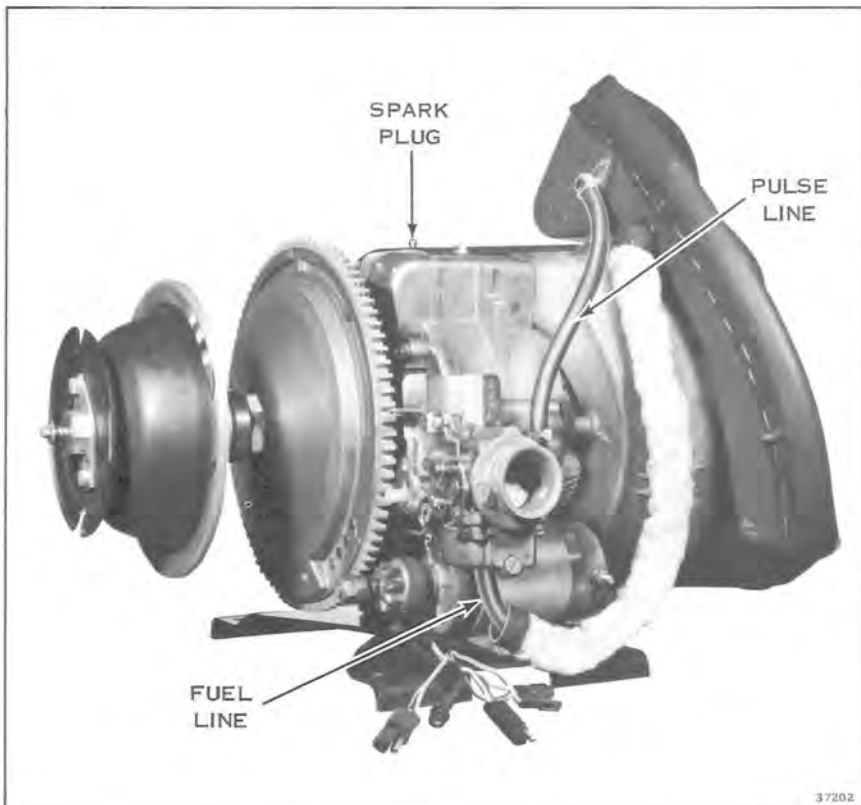

Figure 9-3
1. Remove the spark plug. See Figure 9-3.
2. Remove the pulse line from the rotor housing. See Figure 9-3.
3. Remove the fuel supply line from the carburetor. See Figure 9-3.